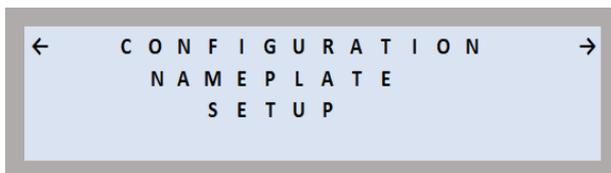

Figure 65
- When ready, press to accept settings and return to the Configuration Nameplate Setup screen (see Figure 65).